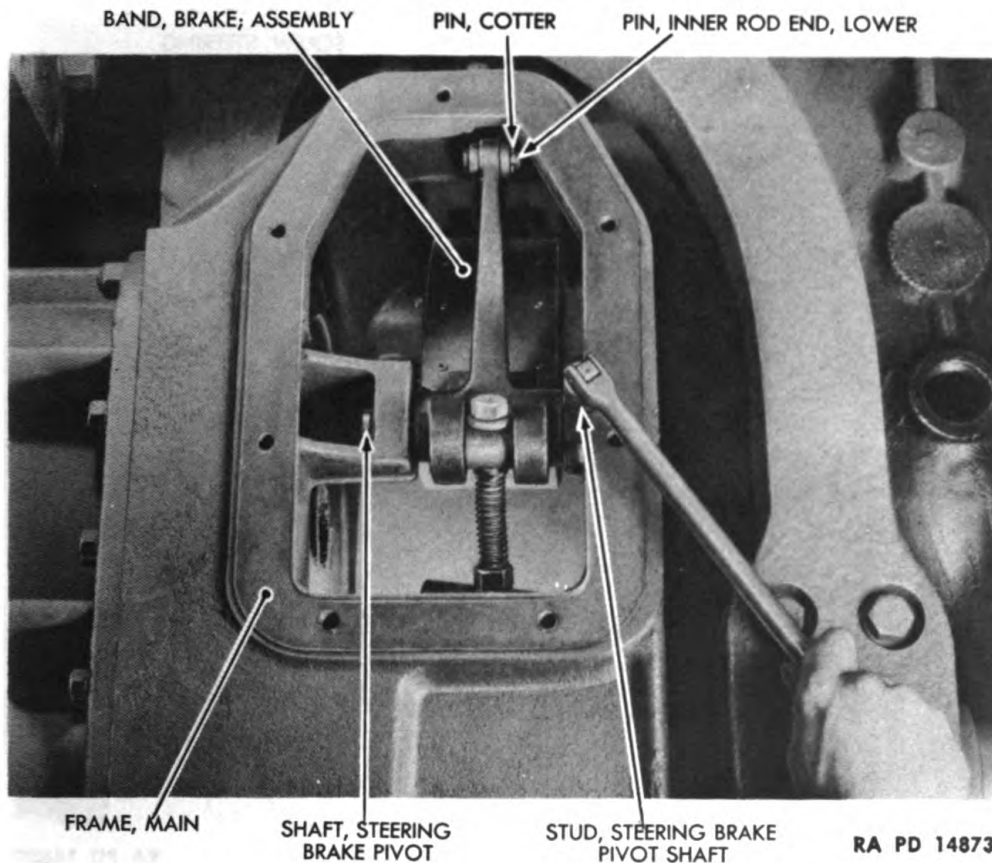

Figure 73 – Steering Brake Pivot Shaft Stud Removal
(2) REMOVE STEERING BRAKE PIVOT SHAFT STUD (fig. 73).
(4) REMOVE BRAKE BAND ASSEMBLY FROM MAIN FRAME (figs. 73 and 75).
(1) POSITION BRAKE BAND ASSEMBLY IN MAIN FRAME (figs. 73 and 75).
(2) INSTALL LOWER INNER ROD END PIN (fig. 73).